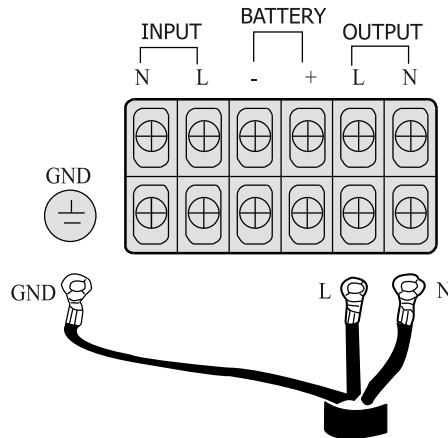

Figure 14
2. Position and way of connection refer to figure 14.